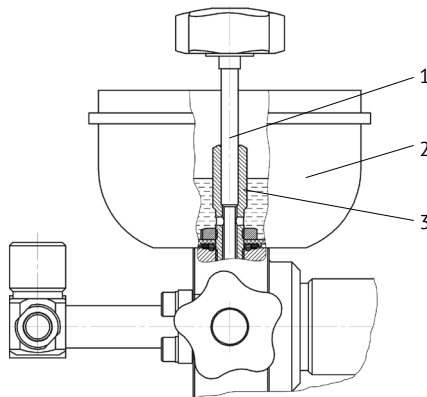

Fig. 3. Side view
6.4 Screw pressure release valve needle 1 (Fig. 3) into threaded coupling 3 of sleeve 2 up to stop without excessive efforts.
6.7 Rotate handwheel 9 clockwise to move guide screw 11 forward to stop, then rotate counterclockwise to move guide screw back to stop. Pump working liquid in the system until air bubbles disappear in the sleeve coupling holes 3 (Fig. 3).